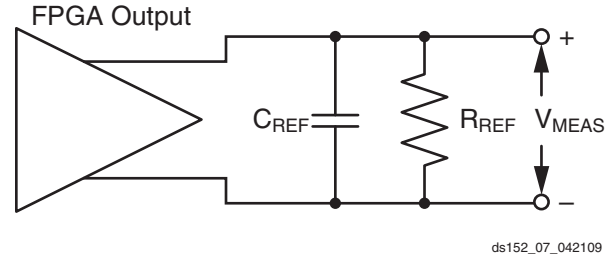
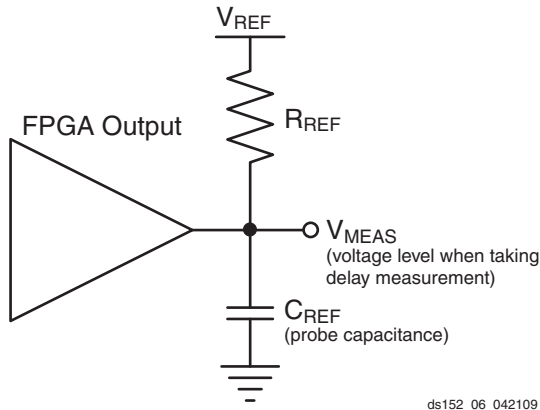

Figure 7: Differential Test Setup
Figure 6: Single Ended Test Setup
5. This is an input voltage reference that bears no relation to the  $V_{REF} / V_{MEAS}$  parameters found in IBIS models and/or noted in Figure 6.
Output delays are measured using a Tektronix P6245 TDS500/600 probe (< 1 pF) across approximately 4" of FR4 microstrip trace. Standard termination was used for all testing. The propagation delay of the 4" trace is characterized separately and subtracted from the final measurement, and is therefore not included in the generalized test setups shown in Figure 6 and Figure 7.